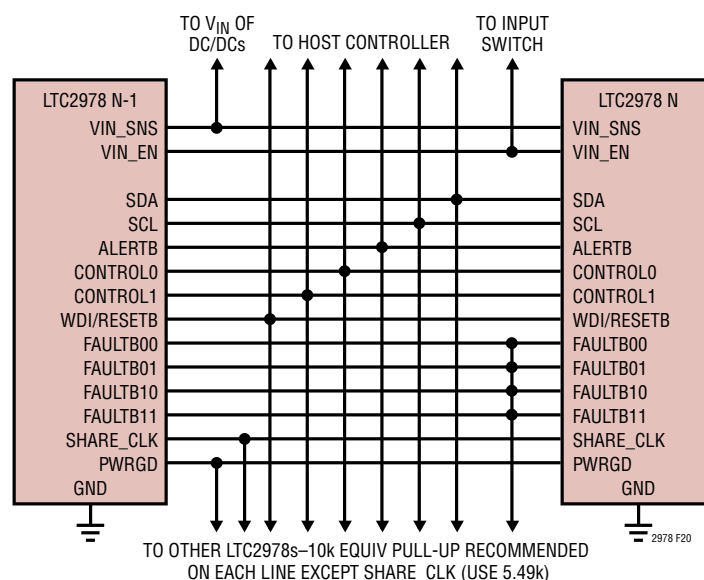
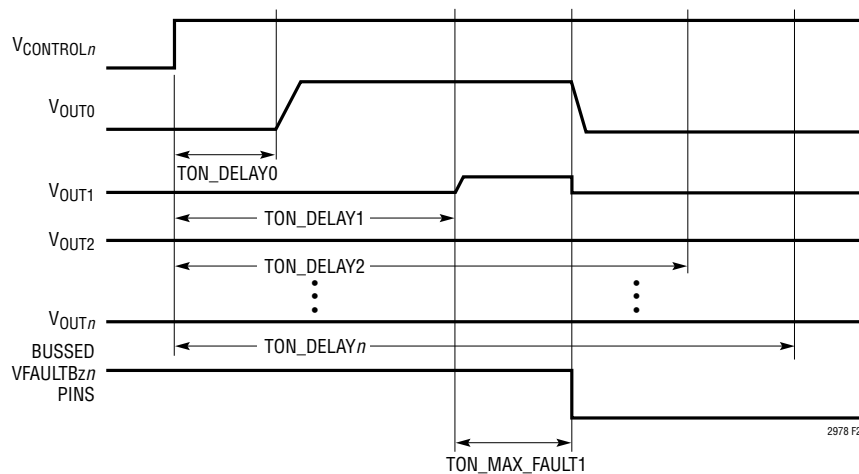

Figure 20. Typical Connections Between Multiple LTC2978s
Figure 21. Aborted On Sequence Due to Channel 1 Short
Figure 20 shows how to interconnect the pins in a typical multi-LTC2978 array.
- The FAULTBzn lines can be connected together to create fault dependencies. Figure 20 shows a configuration where a fault on any FAULTBzn will pull all others low. This is useful for arrays where it is desired to abort a start-up sequence in the event any channel does not come up (see Figure 21).